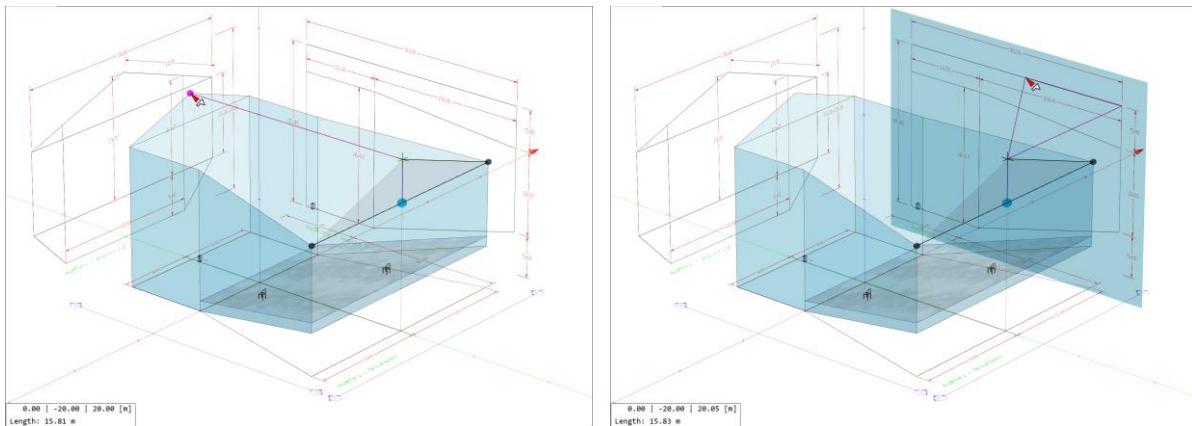

Figure 6.10 The tip of the back wall is inferred by using a Z-constraint and projecting from the tip of the front face (left) or from the drawing (right).
- If a point is snapped or a drawing is hovered, the coordinates are projected onto the plane of the plane constraint or the line representing the axis constraint (Figure 6.10).